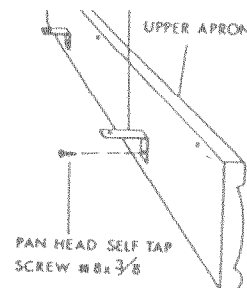

Fig. 12
23. Attach metal brackets (two (2) per apron) from hardware bag as shown (Figure 12). Pilot holes are pre-drilled in back side of apron.